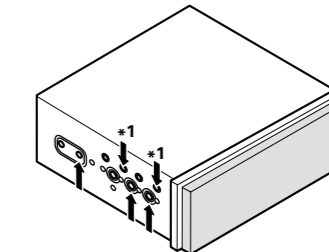
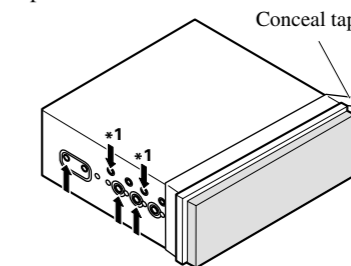
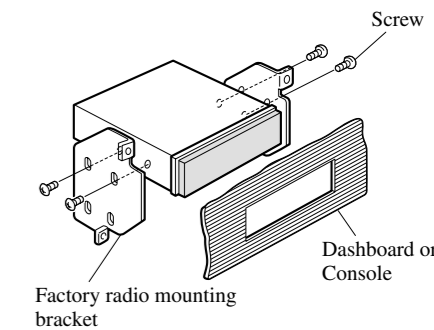

Fig. 17
Fig. 18
Fig. 19
- **Fastening the unit to the factory radio mounting bracket. (Fig. 17) (Fig. 18) (Fig. 19)**